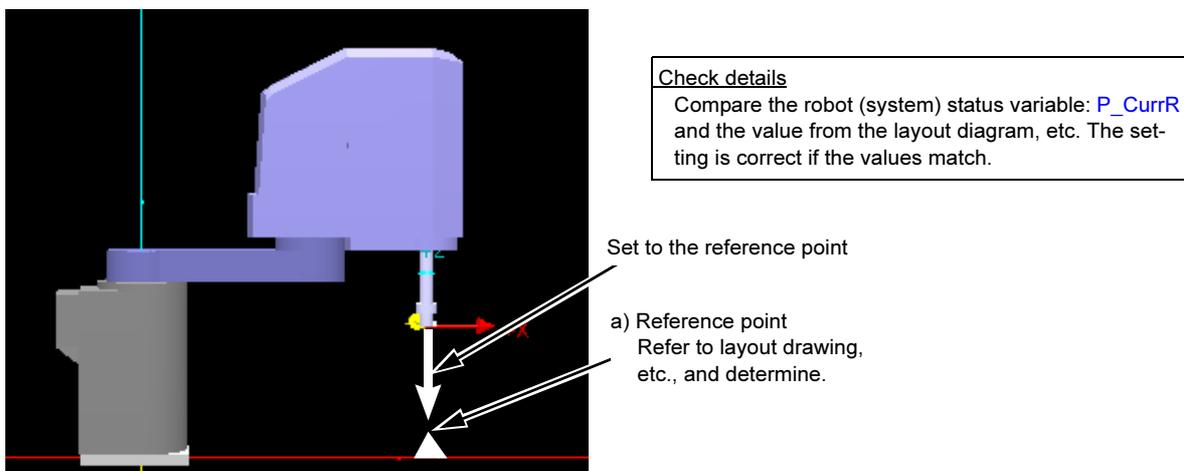

Fig.5-22:Checking the setting for calibration between robots
- 1) Looking at the system layout drawing, etc., set one reference point for each robot. (Fig. 5-22 a) (Hereinafter, reference point)